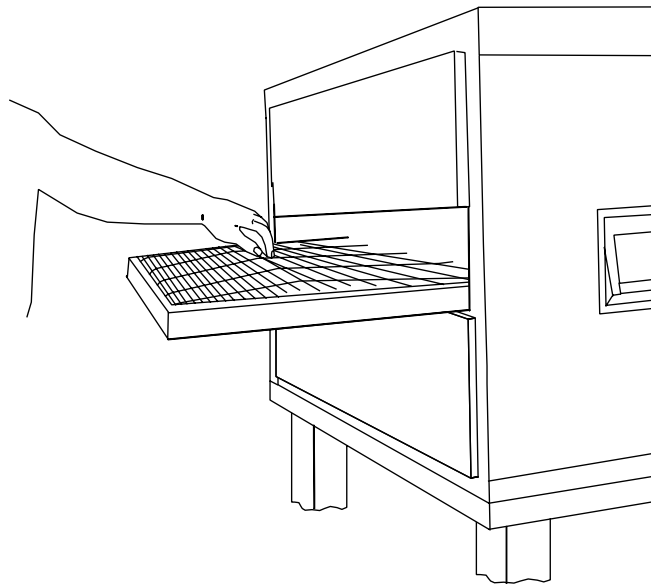

Figure 4-26.
2. Adjust conveyor belt tension screws (located on left end of oven) for the 3" to 4" (75mm to 102mm) deflection as shown in Figure 4-26. If there is proper tension, proceed to "J. Attaching Drive Chain". If belt is still too loose, continue to step 3 below.